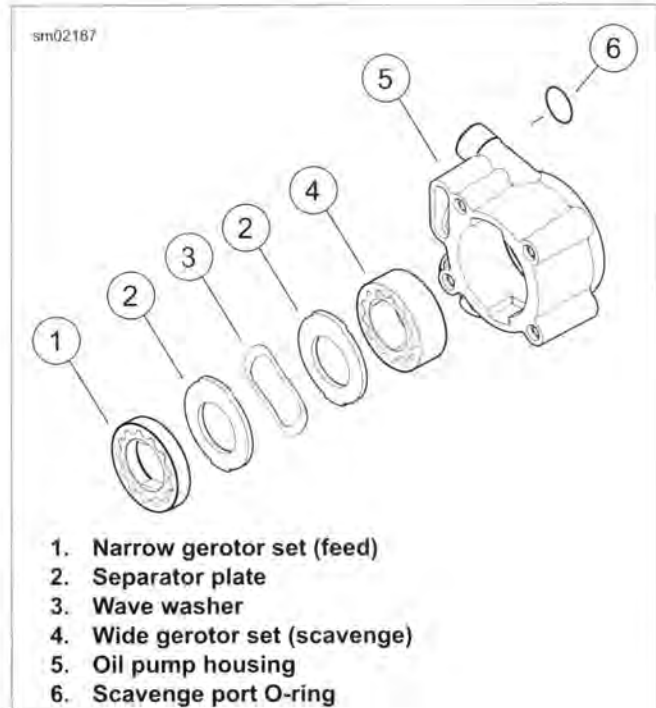
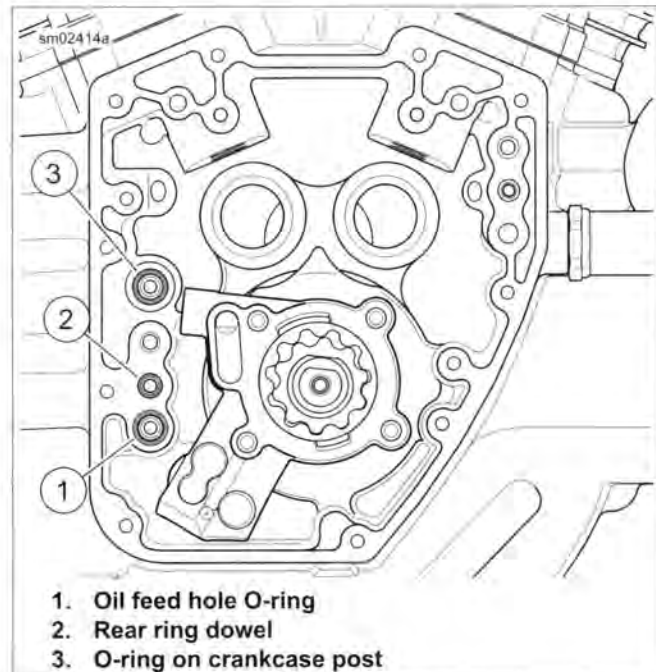

Figure 3-110. Assembling Oil Pump
Figure 3-111. Oil Feed Hole
8. See Figure 3-110. Assemble the oil pump.
1. See Figure 3-110. Apply a very thin film of SCREAMIN' EAGLE ASSEMBLY LUBE to **new** scavenge port stub O-ring (6). Install O-ring on scavenge port of oil pump housing.
2. Slide oil pump housing (5) onto crankshaft while fitting O-ring on scavenge port into crankcase bore.
3. Assemble the wide gerotor set (4). Install on the crankshaft until it bottoms in the oil pump housing.
4. Install inner separator plate (2) on the crankshaft until it contacts the wide gerotor set (4). Install wave washer (3) and outer separator plate (2).
5. Assemble the narrow gerotor set (1). Install on the crankshaft until it contacts the outer separator plate (2).
6. See Figure 3-111. Apply a very thin film of SCREAMIN' EAGLE ASSEMBLY LUBE to **new** O-ring (3) for crankcase post. Install **new** O-ring in groove on crankcase post.